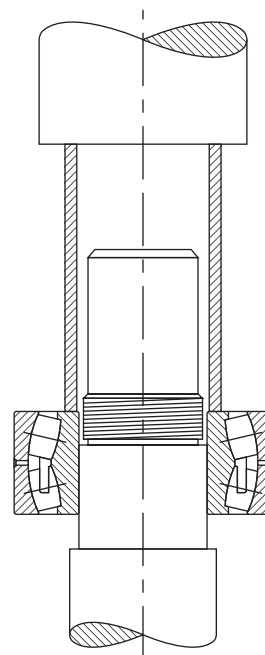

Fig. 6. Arbor press method.
- An alternate method of mounting, generally used only on smaller size bearings, is to press the bearing onto the shaft or into the housing. This can be done by using an arbor press and a mounting tube as shown in fig. 6.